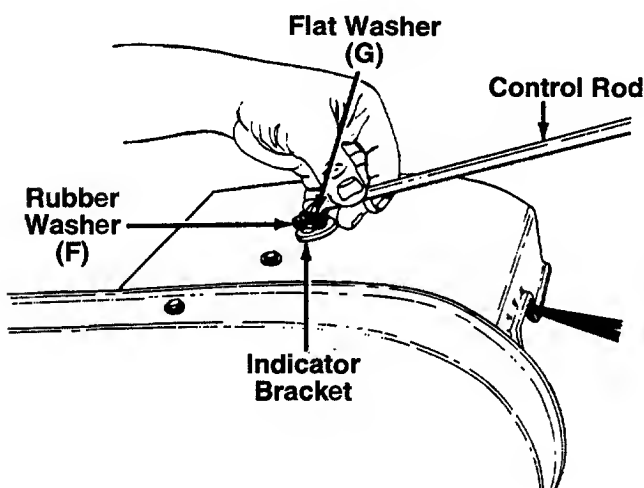

FIGURE 13.
28. Place flat washer (G), then rubber washer (F) over the hooked end of control rod. Insert end of control rod into the indicator bracket on top of the shift cover, and secure with hairpin clip (E). See figure 13.